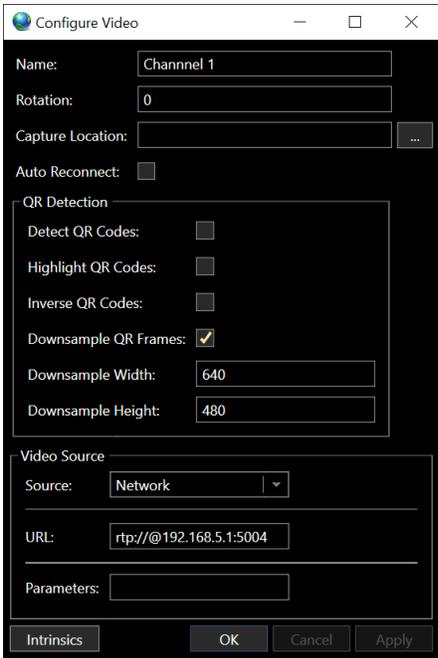

FIGURE 11 CONFIGURE VIDEO DIALOG
- **Config:** Video channel configuration button  for detailed config options, see Figure 11